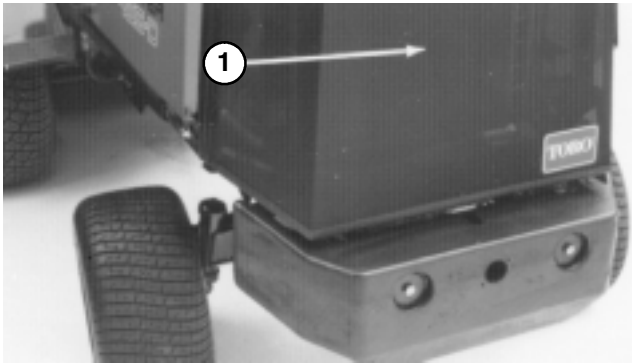

Figure 33
ENGINE COOLING SYSTEM (Fig. 33–34)
- B. Unscrew knobs and remove rear screen (Fig. 33). Clean screen thoroughly.